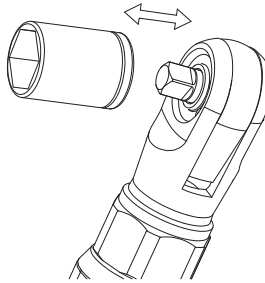

Fig. 3
1. Insert a socket into the anvil (see Fig.3).
1. Always follow the procedure below to remove a socket. Pull out the socket from the anvil of output drive directly. (see Fig. 3)